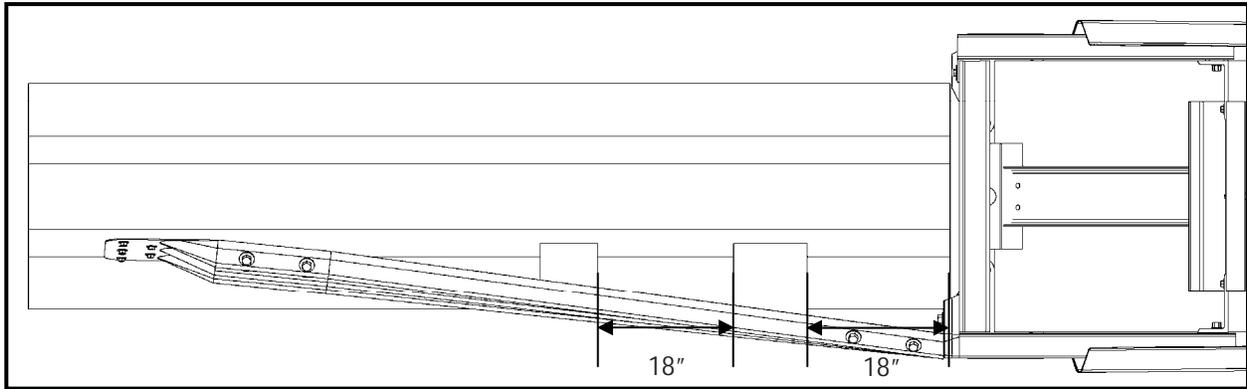
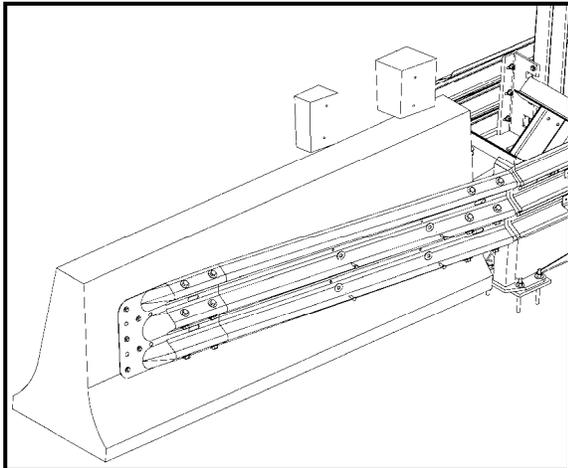
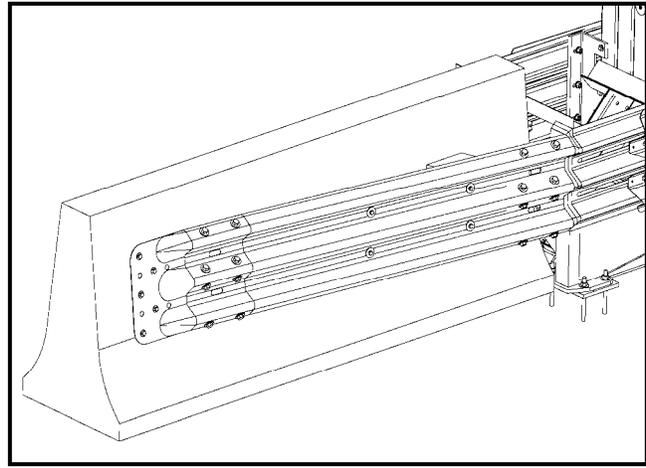

Figure 39: Wood Block Support Positions
Figure 40: Wood Block with Hardware
Figure 41: Wood Block Installed
Shape the Large and Small Wood Transition Support Blocks (8 and 9) such that the spacing shown in Figure 39 is achieved as well as the being flush with the CMB and the Thrie Beam Panel (6). Drill two 3/8" diameter holes 2-1/2" deep per Block (8 and 9) using the pre drilled holes in the Thrie Beam Panel (6) and install the Blocks (8 and 9) using lag screws (32) and washers (33) as shown in Figure 40. The installed Wood Transition Blocks (8 and 9) can be seen in Figure 41.